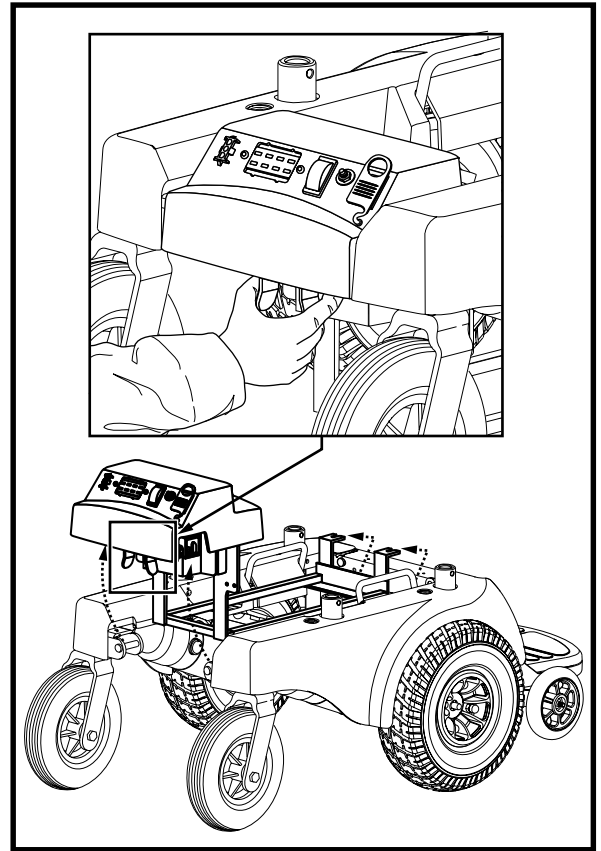

Figure 13. Removing Battery Well Frame
3. Squeeze together the latch release levers that hang vertically down from the crossbar at the rear of the battery well frame. See figure 13. Lift up the rear end of the battery well frame. Pull it to the rear of the chair to release the front slots from the locating pins on the front frame bottom bar.